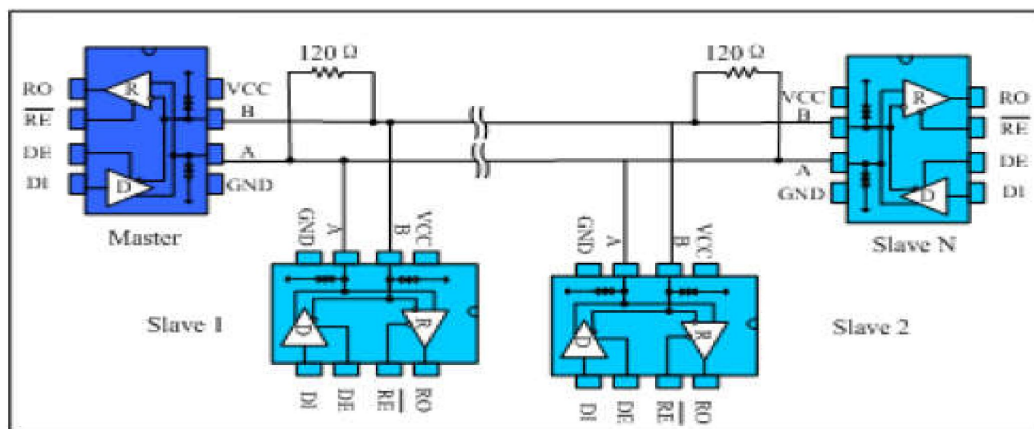

Fig. 9 Bus-type RS485 half-duplex communication network
4.1 Bus networking: The MAX483ESA-TD RS485 transceiver is designed for bidirectional data communication on multi-point bus transmission lines. Figure 9 shows a typical network application circuit. These devices can also be used as linear repeaters with cables longer than 4000 feet. In order to reduce reflections, terminal matching should be done at both ends of the transmission line with their characteristic impedance, and the length of the branch wires other than the main line should be as short as possible.